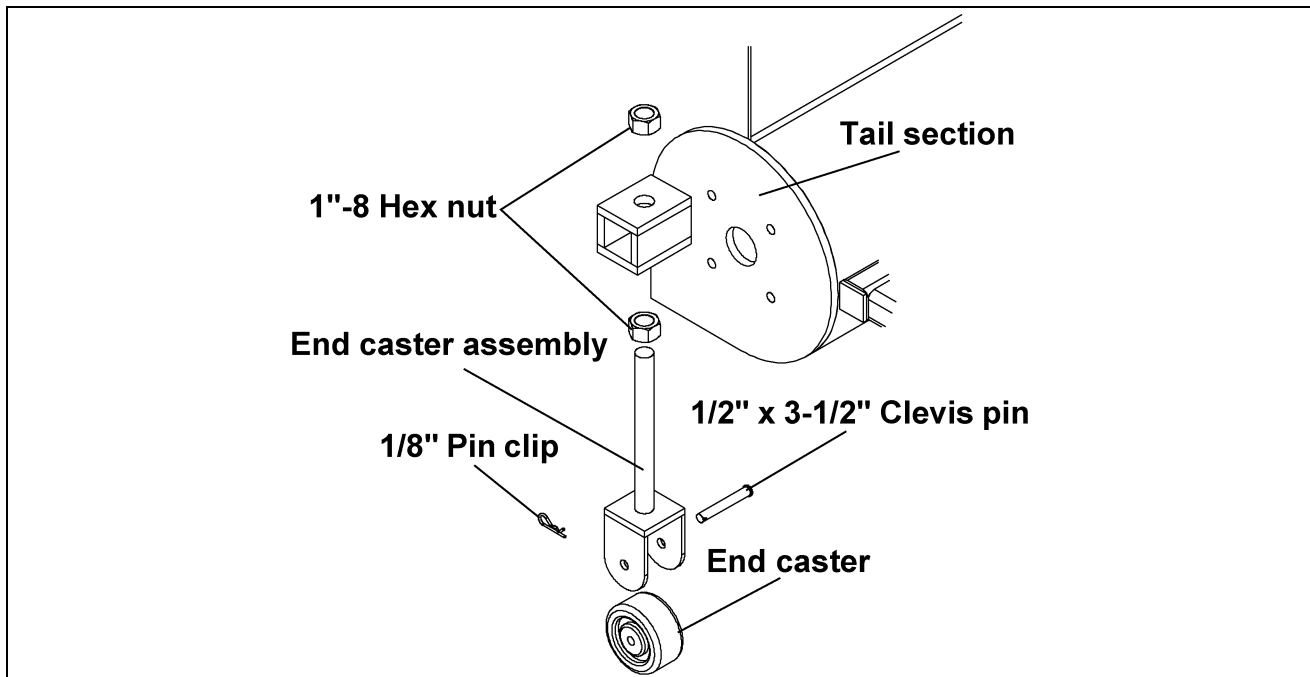

Figure 5I
B. **(All 16" Models and 12" Models with extensions.)** Assemble the end caster to the end caster assembly using the 1/2" x 3-1/2" clevis pin and 1/8" pin clip as shown in Figure 5I.
C. Attach the end caster assembly to the end of the tail section using two (2) 1"-8 hex nuts.